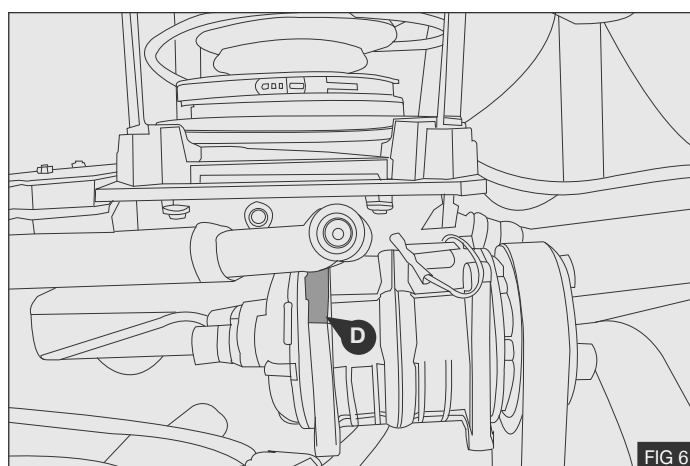

FIG 6
1. Remove the compressor ear at point (D) to allow for clearance of the gear linkage. - Fig 6